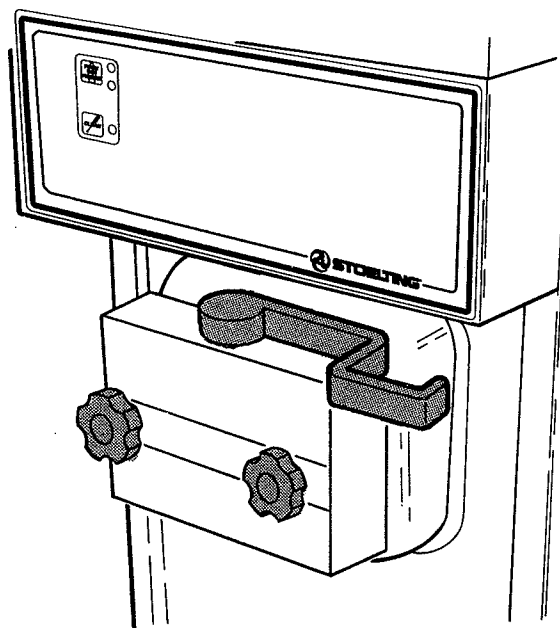

Figure 24. Door Knob Removal
- A. Remove the two circular shaped knobs. (See Fig. 24.)